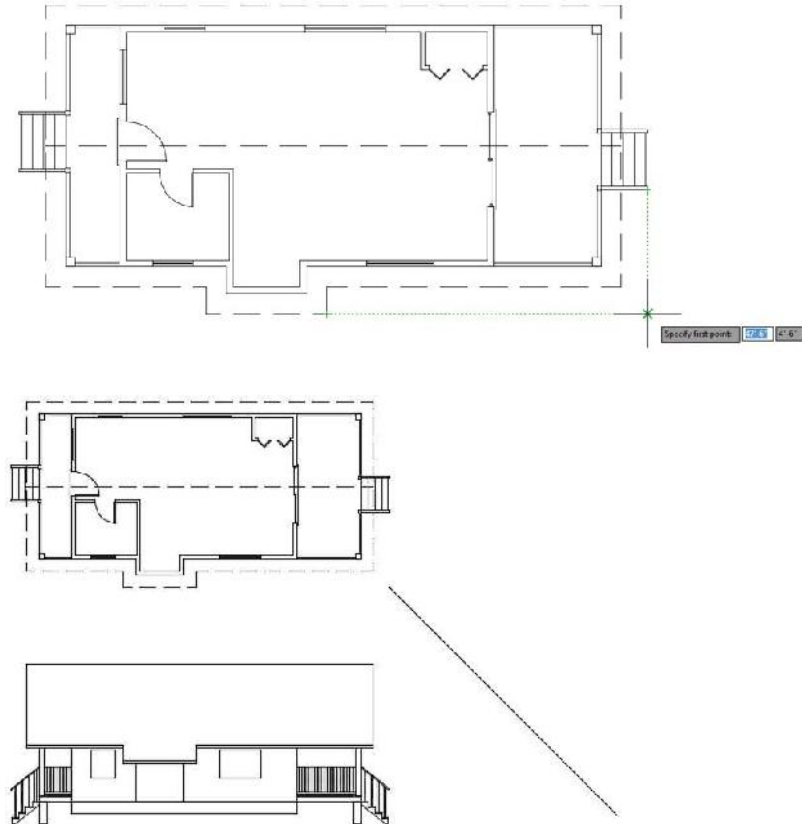

FIGURE 10.48: Starting a diagonal reference line with tracking points (top) and the completed diagonal line (bottom)
9. Move the crosshair cursor to a point directly to the right of the corner of the roof pop-out and directly under the intersection point of the handrail (see the top of Figure 10.48).
This completes the diagonal reference line (see the bottom of Figure 10.48).